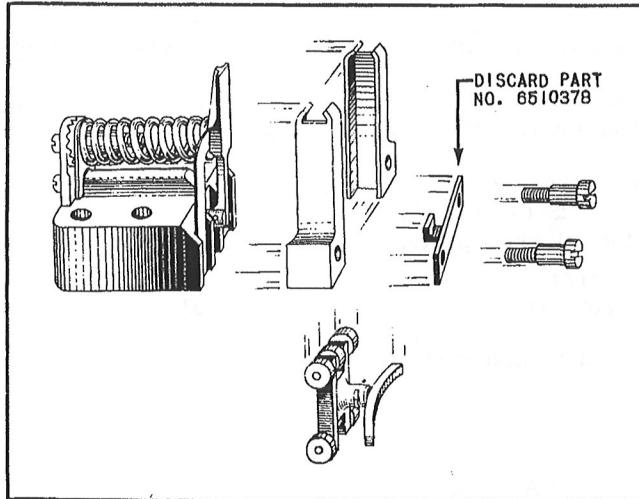

Figure 1
(1) Turn the governor adjusting screw full travel clockwise.
(2) Remove the 10 x 32 attaching screws from the governor piston stop. Remove the governor piston stop and the carriage ways. Remove the carriage from the ways. (See figure 1.)